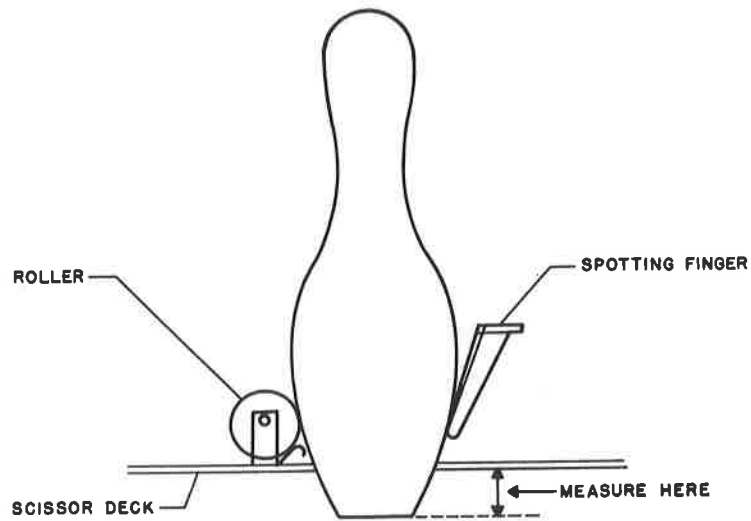

Figure 120. Wobbling Pins
2. Measure the distance the pins protrude from the bottom surface of the scissor deck. Make sure the pins are fully seated and are vertical to the alley surface. (See Figure 120).